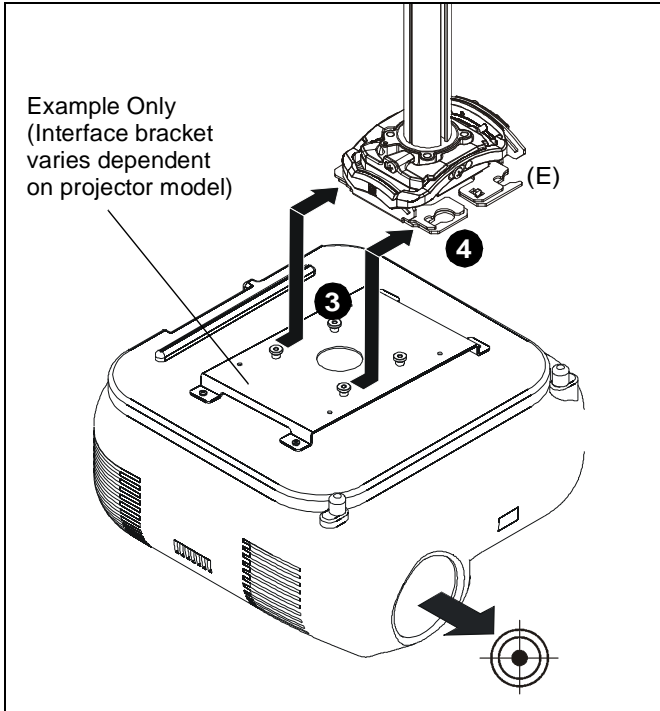

Figure 4
2. Orient projector with interface bracket. (See Figure 4)
3. Lift projector so that screws with thumb nuts are aligned with mounting slots in mount base. (See Figure 4)
4. Slide projector with mounting bracket onto mounting slots in mount base until screws are seated against the back of mounting slots. (See Figure 4)